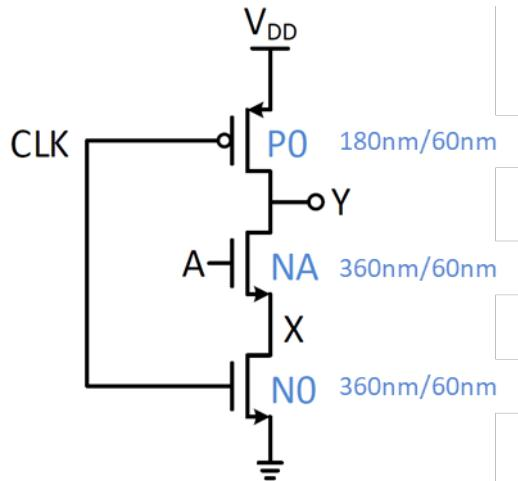

Figure 6: Dynamic Inverter Gate
Now we would like to make an AND gate by cascading a dynamic inverter to the NAND gate. Create a schematic view and call it **DYN\_N\_F\_IN1\_X1**. The inverter should look similar to the one on Figure 6. You can simply copy the cell **DYN\_N\_F\_ND2\_X1** and modify it to save some time; if you do so, do **NOT** forget to modify also the symbol view.
- Observe the transitions by looking at the inverter schematic on Figure 6 (**DYN\_N\_F\_IN1\_X1** on Cadence) and considering the MOS parasitic capacitances (Do not forget the fact that the input of the inverter is a precharged floating node during the evaluation phase).
- Observe the transitions by looking at the inverter schematic on Figure 6 (**DYN\_N\_F\_IN1\_X1** on Cadence) and considering the states of the three transistors on that schematic (either they are ON/OFF).